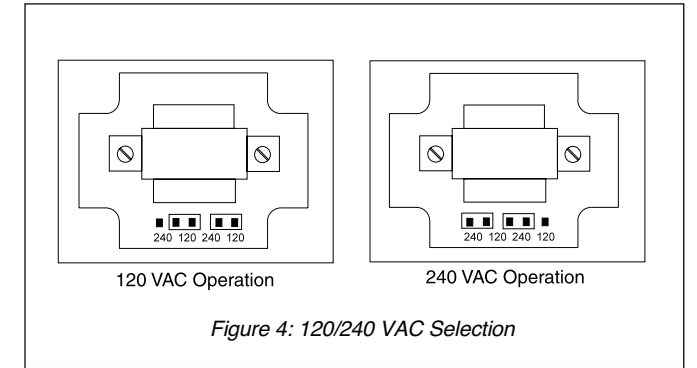

Figure 4: 120/240 VAC Selection
1. Configure the AC jumpers for either 120 or 240 VAC operation. See Figure 4.